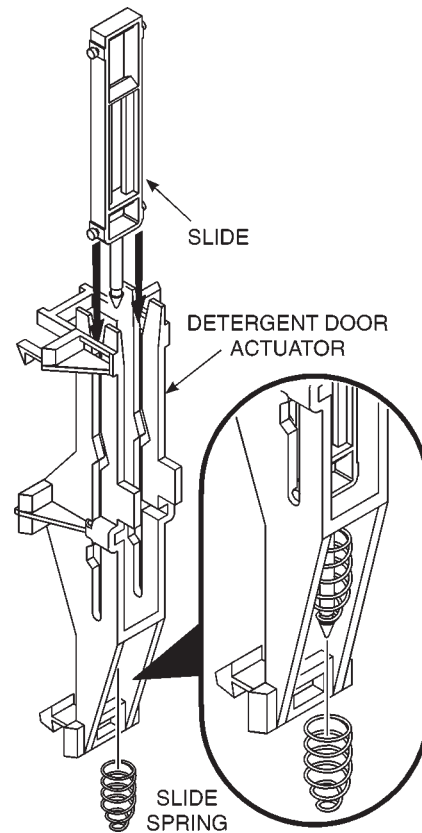

Fig. 3-15
11. Remove the upper slide, the slide spring and the lower slide. (Fig. 3-15)
1. Assemble the slide and slide spring to the detergent door actuator. (*Fig. 3-15*)